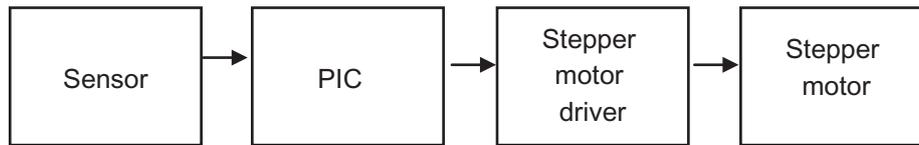

Fig. 1(d)
- (i) State if the system shown in **Fig. 1(d)** is open loop or closed loop and justify your answer. [4]
- (ii) It has been suggested that the sensor shown in **Fig. 1(d)** could be used as the input for a system to count and display the number of people entering the gallery which must not exceed 550. Draw an annotated block diagram based on a number of BCD counters, display drivers and seven segment displays to achieve this. Your answer should include an alarm that will sound when the maximum number of 550 is reached. [5]
- (iii) On the blank pro forma provided (answer number **1(d)(iii)**) draw a complete annotated PIC based circuit diagram (and associated flowchart program) to produce a viable design based on the systems diagram shown in **Fig. 1(d)** that will fulfil the following points: